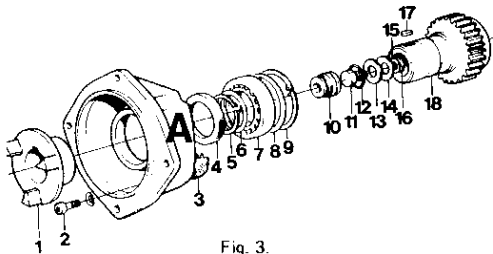

Fig. 3.
1. Remove the screw (11, see Fig. 3). NOTE! Keep an eye on the washers (13, 14, 16) and the shim (15).
3. Remove the sealing ring (4, Fig. 3).
4. Inspect the bearing (7), the gear wheel (18) and the friction lining. If the lining is damaged, the entire gear must be replaced. Separate friction linings are available in stock. If the bearing and gear wheel have to be replaced, follow work operations 5 to 7. The bearing should be replaced if the drive is pressed out.
5. Remove the key (17) and the circlip (5). NOTE! Take care of the shim (6).
7. Remove the circlip (9). NOTE! Take care of the shim (8). Press out the bearing (7) with the help of drift 884265.